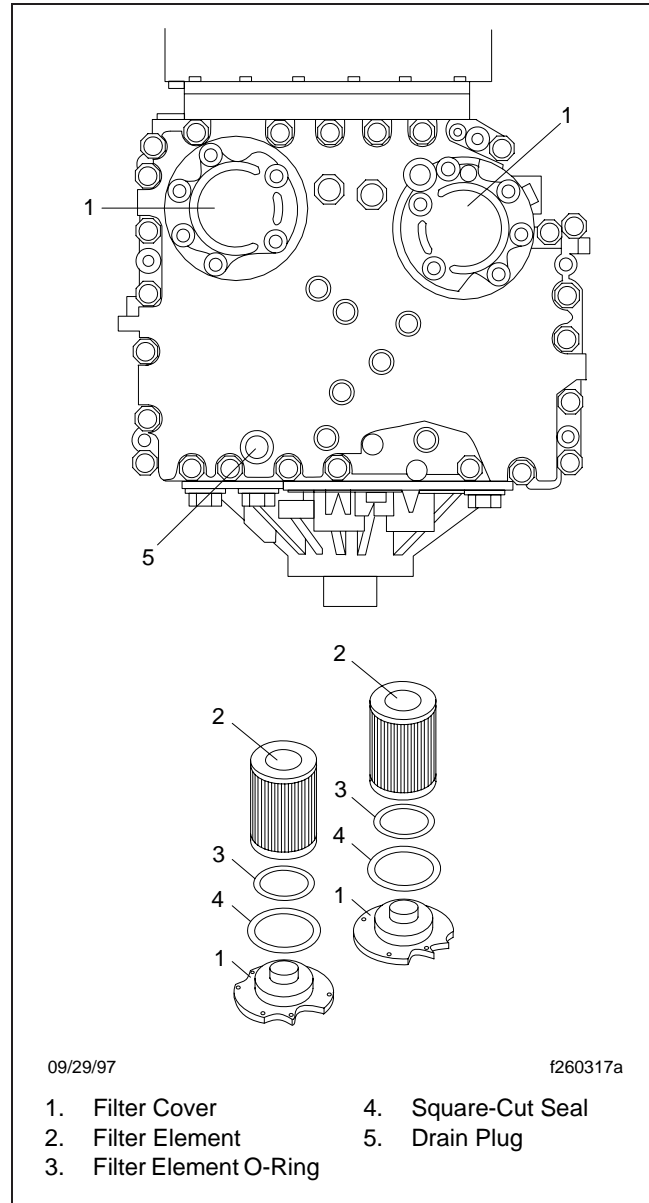

Fig 1, Allison Transmission Filter Location and Components
5. Remove the filter covers, O-rings, and two square-cut seals from the transmission. See Fig. 1.
12. Replace the drain plug O-ring, and install the drain plug. See Fig. 1. Tighten the drain plug 18 to 24 lbf·ft (25 to 32 N·m).